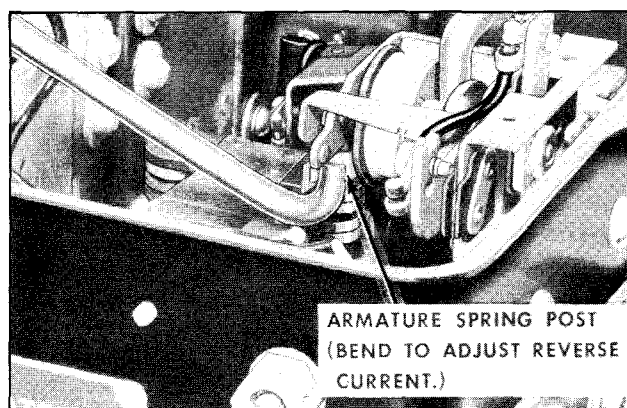

Figure 29—Overload Relay Reverse Current Adjustment
6. If necessary, adjust reverse current setting by bending armature spring post (fig. 29). Check final current setting as in Step 5.